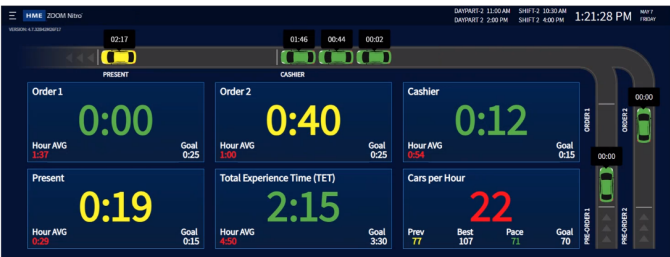

Fig. 5.10
3. Return to the Dashboard to see the affected change. See Fig. 5.10 (lower middle pane).